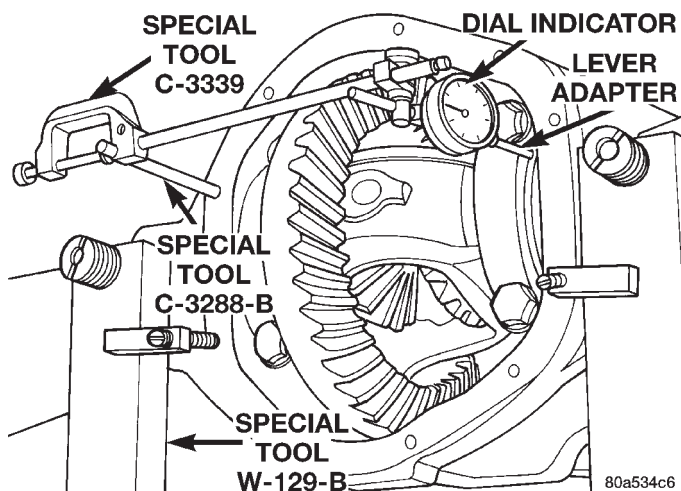

Fig. 29 Install Dial Indicator
- (8) Install a Pilot Stud C-3288-B at the left side of the differential housing. Attach Dial Indicator C-3339 to pilot stud. Load the indicator plunger against the opposite side of the housing (Fig. 29) and zero the indicator.
(2) Install a Pilot Stud C-3288-B at the left side of the differential housing. Attach Dial Indicator C-3339 to pilot stud. Load the indicator plunger against the opposite side of the housing (Fig. 29) and zero the indicator.